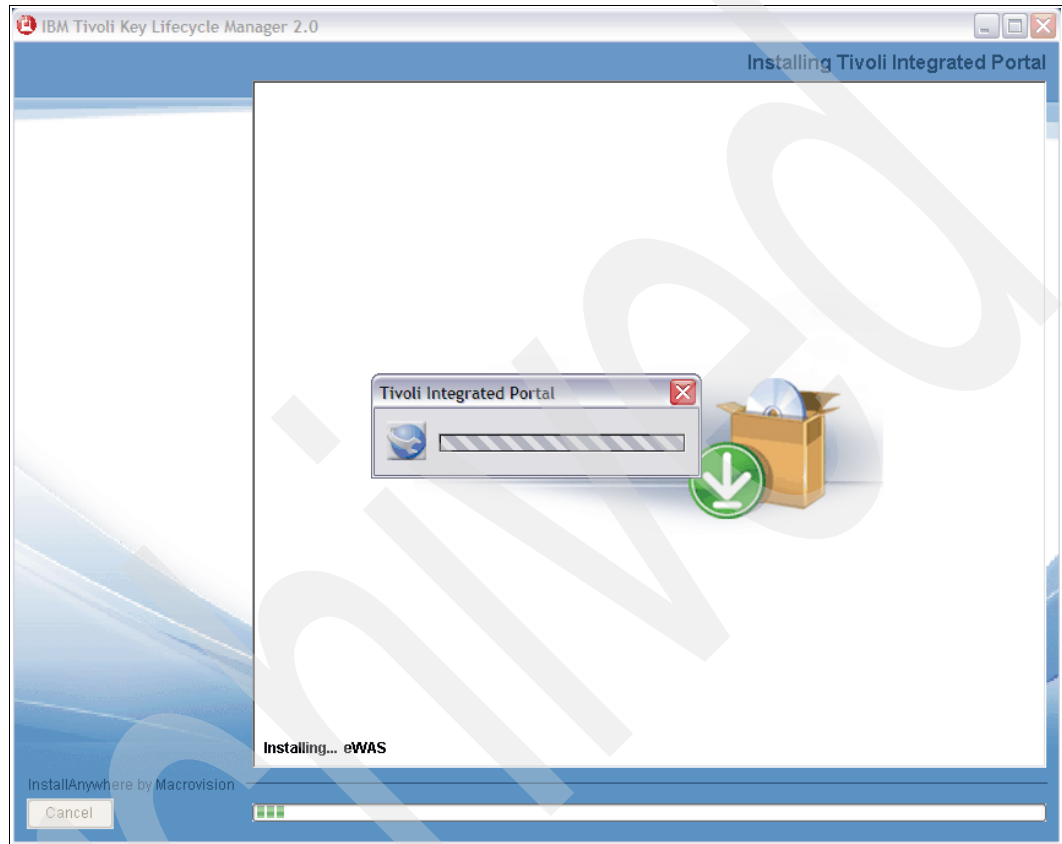

Figure 6-16 TKLM\_v2\_TIP
16. Installation of the Tivoli Integrated Portal (TIP) begins. The progress of the installation is displayed as shown in Figure 6-16. Do not touch the keyboard or mouse during this process; just leave it running,